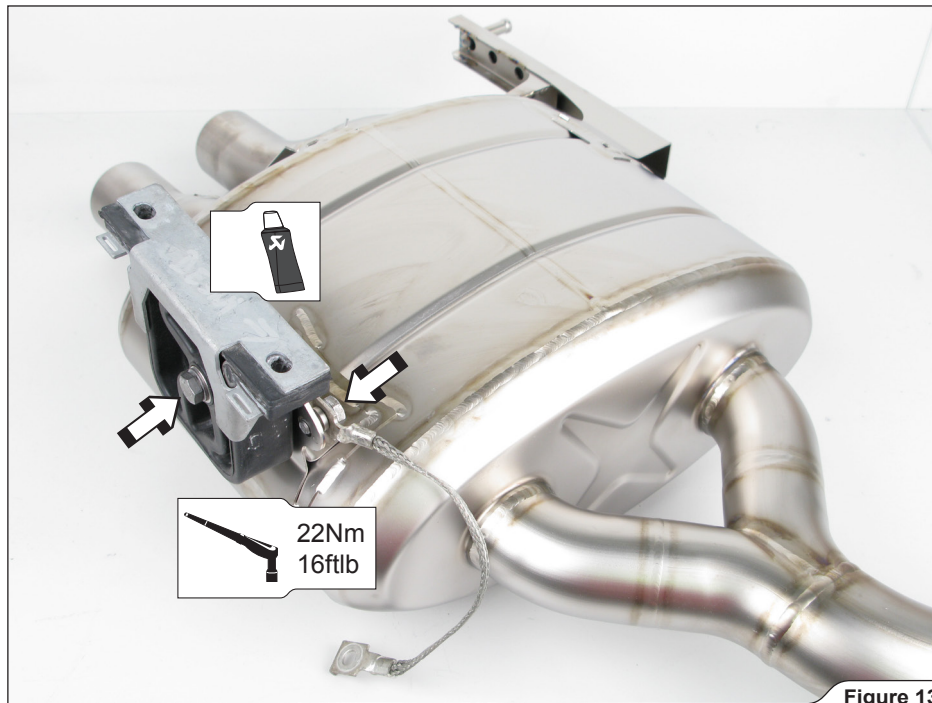

Figure 13
5. **For Slip-On and Evolution:** attach the stock muffler brackets (bear in mind, that brackets are not simetrical) and ground wires on both Akrapovič mufflers (**Figure 13**).